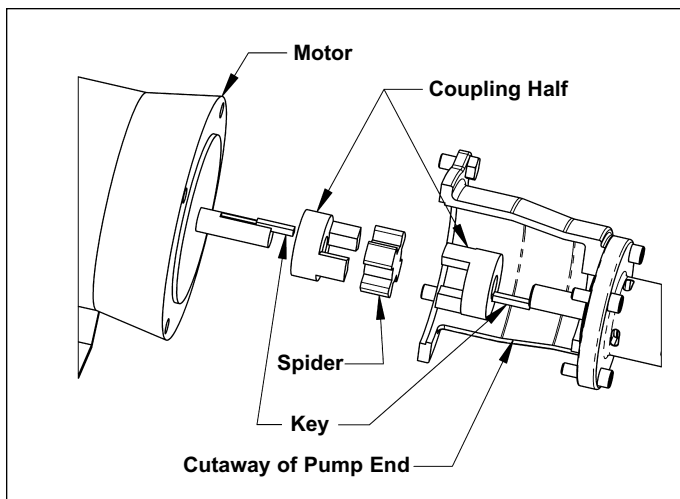
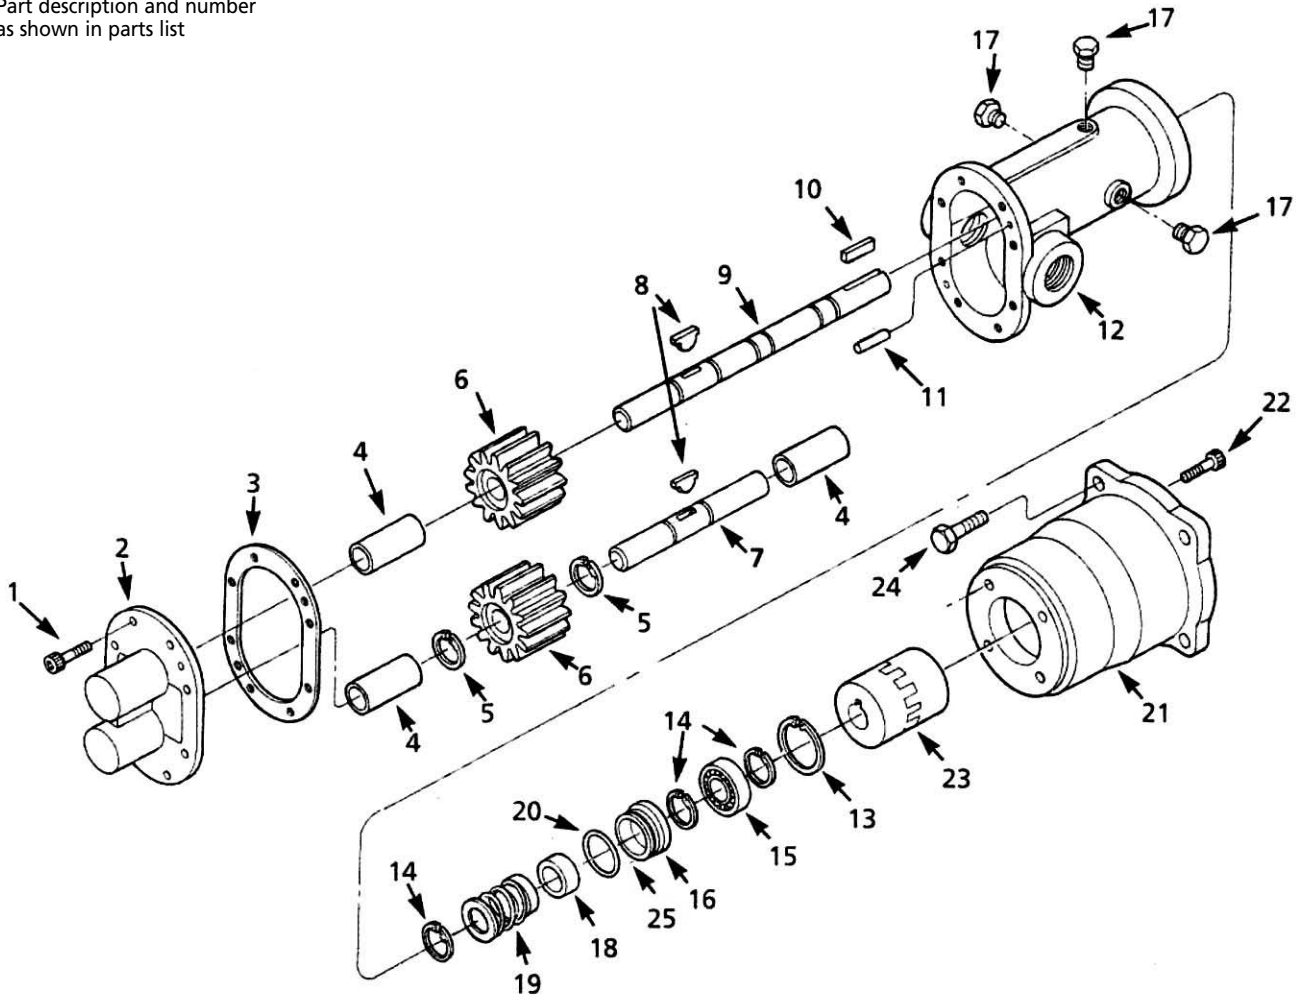

Figure 3 - Pump Motor Assembly
Figure 13 – Repair Parts Illustration
Figures 3 and 4.) First, install one of the
(Refer to Figure 13 for Reference Numbers and Figures 3, 8, 9, 10, 11 & 12 for detailed seal and shaft assemblies.)
- a. Remove the coupler half from the pump (See Figure 3). The motor coupler half does not need to be removed unless motor is being replaced.